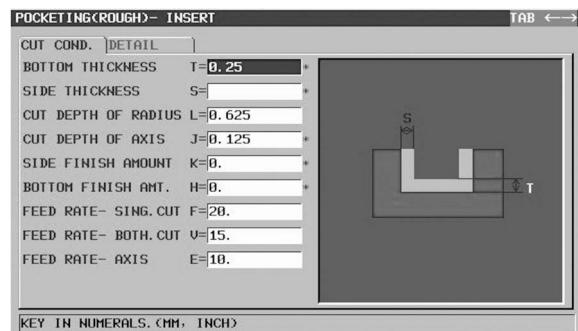

Figure 7-58 POCKETING (ROUGH),
- Complete the CUT COND. Tab, per Figure 7-58.